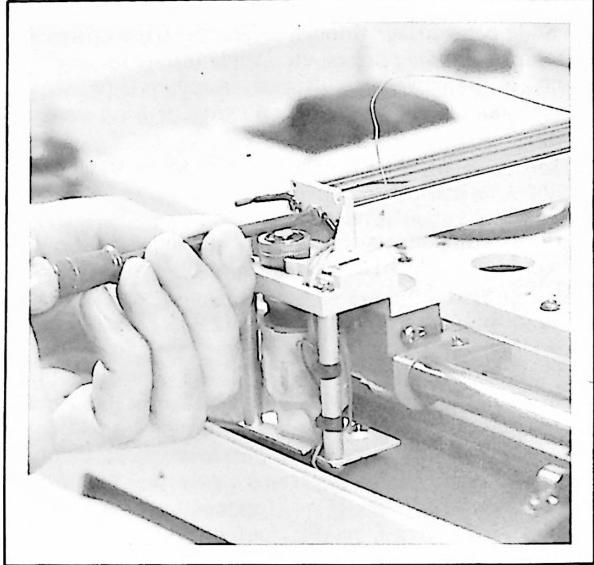

Figure 5-5. Carriage Arm Removal
d. Remove screw at motor end of carriage arm. See Figure 5-5.